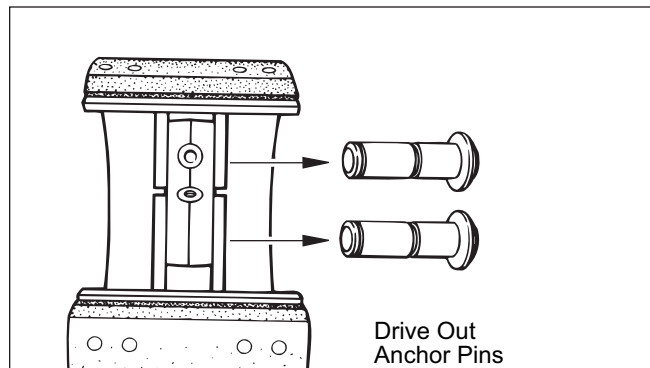

Figure 23. Anchor Pin Removal
9. To remove upper and lower shoes, remove anchor pins with a brass drift or a mallet. Refer to Figure 23.